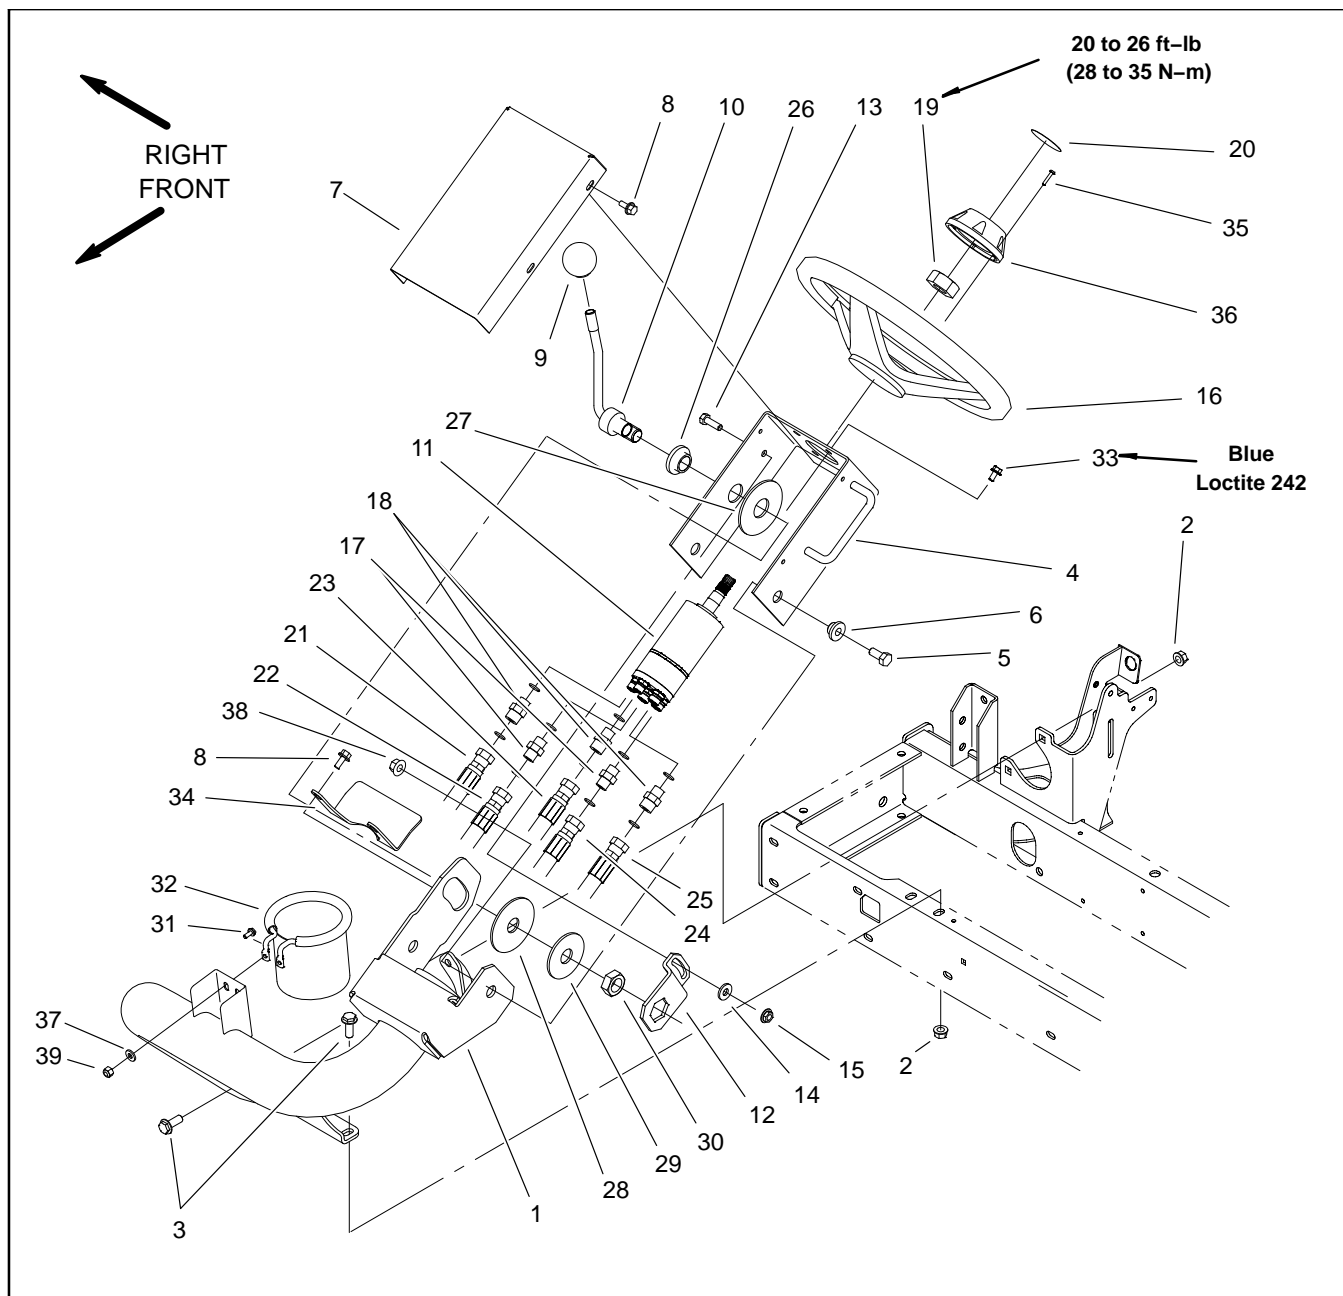

Figure 9
7. Remove and replace parts as necessary to repair steering column (Fig. 9 and 10).
1. Make sure lever and friction discs are properly assembled to the steering control valve bracket (Fig. 9 and 10).